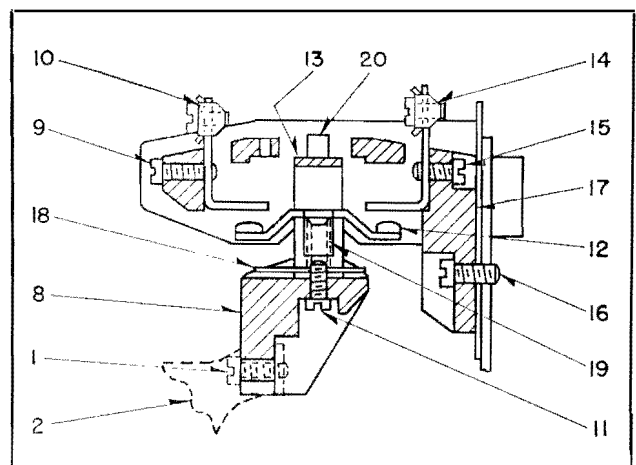
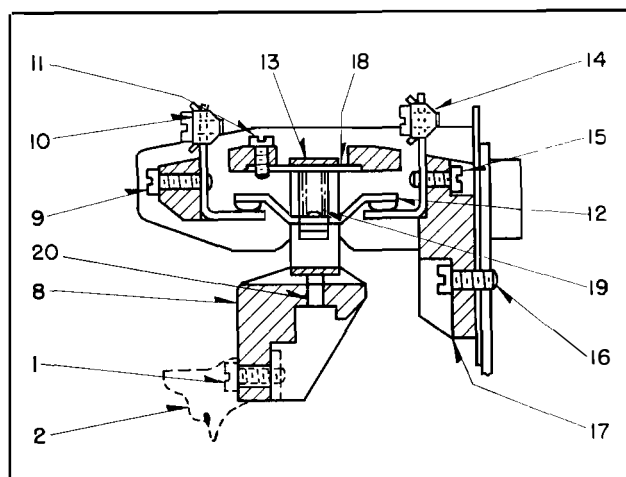

FIG. 2. Typical Normally Open Contact in De-Energized Position
FIG. 3. Typical Normally Closed Contact in De-Energized Position
To reassemble follow the same procedure except in reverse order making sure that pin (20) Fig. 3 engages hole in crossbar for all N.C. contacts.
Changing Contacts From N.O. To N.C. (Refer to Figs. 2 and 3) — To change N.O. contact, Fig. 2, to N.C. position per Fig. 3, first remove crossbar mounting screws (1) and withdraw crossbar (8). Second, remove front stationary contact mounting screw (9) and front stationary contact (10). Third, remove contact saddle mounting screw (11); invert the complete moving contact assembly and secure it in place in the molded contact base per Fig. 3 using the same screw (11) as before. Replace the front stationary contact (10) and operate the contact manually a few times to make sure it is free. Replace the crossbar assembly (8) and screws (1), making sure that pin (20) Fig. 3 engages hole in crossbar.
Normally Open Contacts. (See Fig. 2) Inspection of N.O. contacts is accomplished by removing the two crossbar mounting screws (1), whereupon the crossbar (8), complete with the moving contacts, may be removed and all contacts are accessible.
Normally Closed Contacts. (See Fig. 3) Inspection of N.C. contacts is accomplished by first removing the crossbar mounting screws (1) and the molded crossbar (8) complete with any moving contacts that may be attached thereto. Next, the front stationary contact (10) and its mounting screw (9) are removed and screw (11) is removed, allowing the complete moving contact assembly to be taken out for inspection.